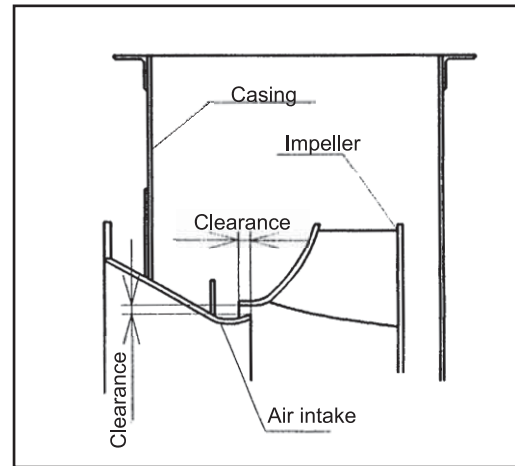

Figure 4 - Internal gap of the blower
- (6) If the casing is separated from the bearing and the base, set the height and the position in consideration of the clearance (See Figure 4.) between the rotating body and the casing. Adjust the clearance between the impeller and the air intake and the clearance between the main shaft and the casing (shaft seal) so that they are as even as possible in terms of circumference.